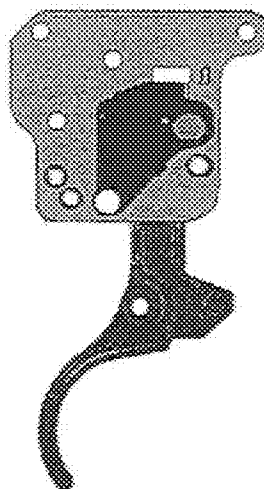

Figure 1
1. Insert Trigger into the trigger housing from the bottom as shown in Figure 1.